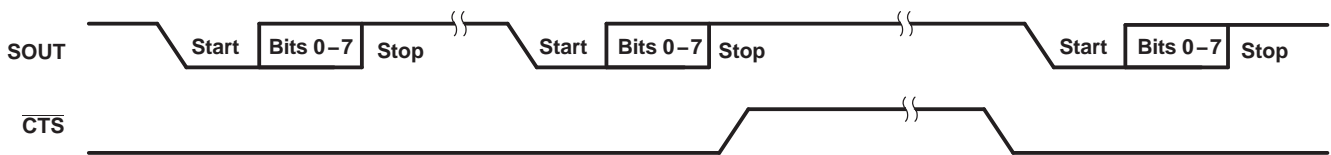
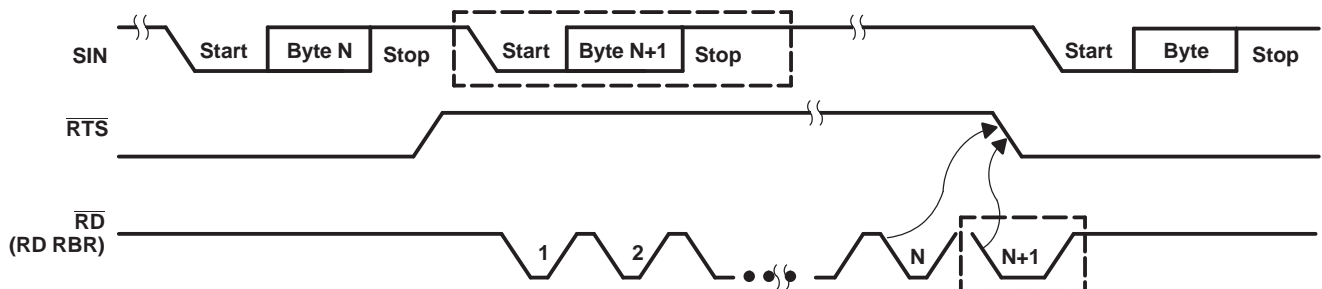

Figure 2.  $\overline{\text{CTS}}$  Functional Timing Waveforms
Figure 3.  $\overline{\text{RTS}}$  Functional Timing Waveforms, RCV FIFO Trigger Level = 1, 4, or 8 Bytes
**Auto- $\overline{\text{RTS}}$  (See Figure 2 and Figure 3)**
Auto- $\overline{\text{RTS}}$  data flow control originates in the receiver timing and control block (see functional block diagram) and is linked to the programmed receiver FIFO trigger level. When the receiver FIFO level reaches a trigger level of 1, 4, or 8 (see Figure 3),  $\overline{\text{RTS}}$  is deasserted. With trigger levels of 1, 4, and 8, the sending ACE may send an additional byte after the trigger level is reached (assuming the sending ACE has another byte to send) because it may not recognize the deassertion of  $\overline{\text{RTS}}$  until after it has begun sending the additional byte.  $\overline{\text{RTS}}$  is automatically reasserted once the RCV FIFO is emptied by reading the receiver buffer register.
### Auto- $\overline{\text{CTS}}$ (See Figure 2)
The transmitter circuitry checks  $\overline{\text{CTS}}$  before sending the next data byte. When  $\overline{\text{CTS}}$  is active, it sends the next byte. To stop the transmitter from sending the following byte,  $\overline{\text{CTS}}$  must be released before the middle of the last stop bit that is currently being sent (see Figure 2). The auto- $\overline{\text{CTS}}$  function reduces interrupts to the host system. When flow control is enabled,  $\overline{\text{CTS}}$  level changes do not trigger host interrupts because the device automatically controls its own transmitter. Without auto- $\overline{\text{CTS}}$ , the transmitter sends any data present in the transmit FIFO and a receiver overrun error may result.